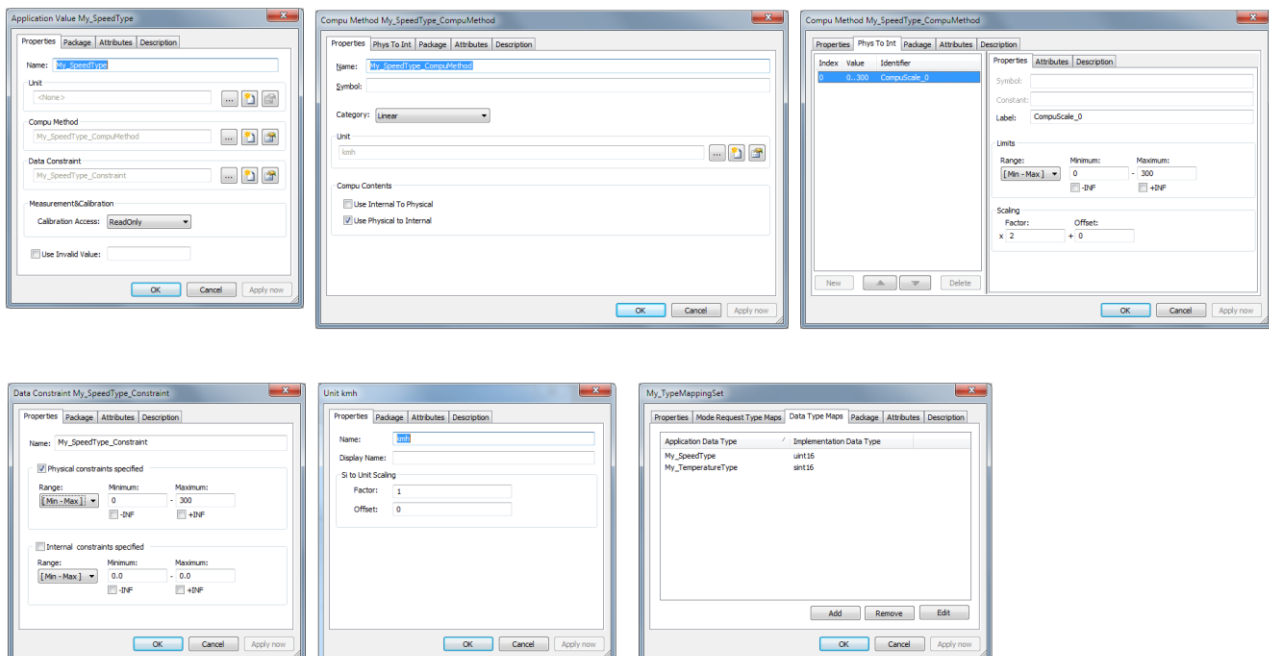

Figure 4-17 My_SpeedType settings
- A Value application data type (“My_SpeedType”) is created and mapped to uint16 (see Figure 4-17). For details about primitive data type creation refer to chapter 4.1.